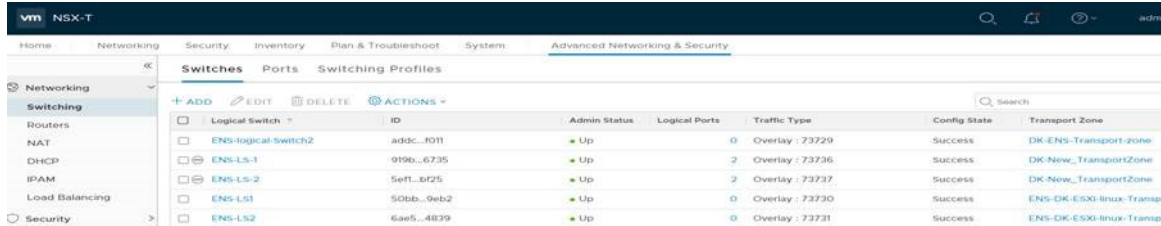

Figure D-15. Advanced Networking & Security Window
- From the Home page, select **Advanced Networking & Security** (Figure D-15).